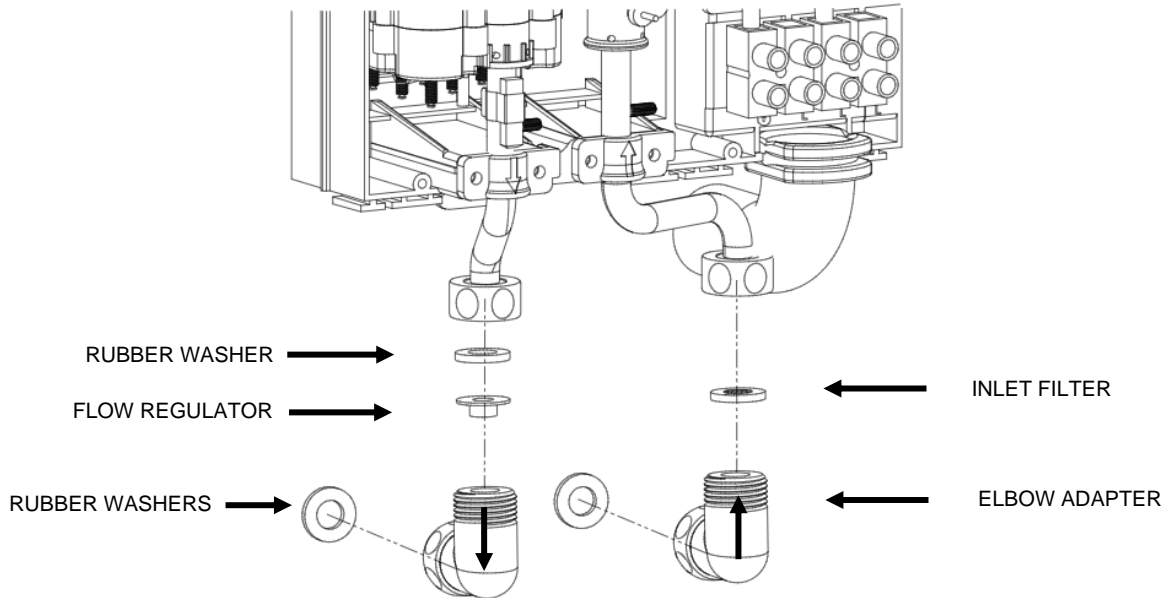
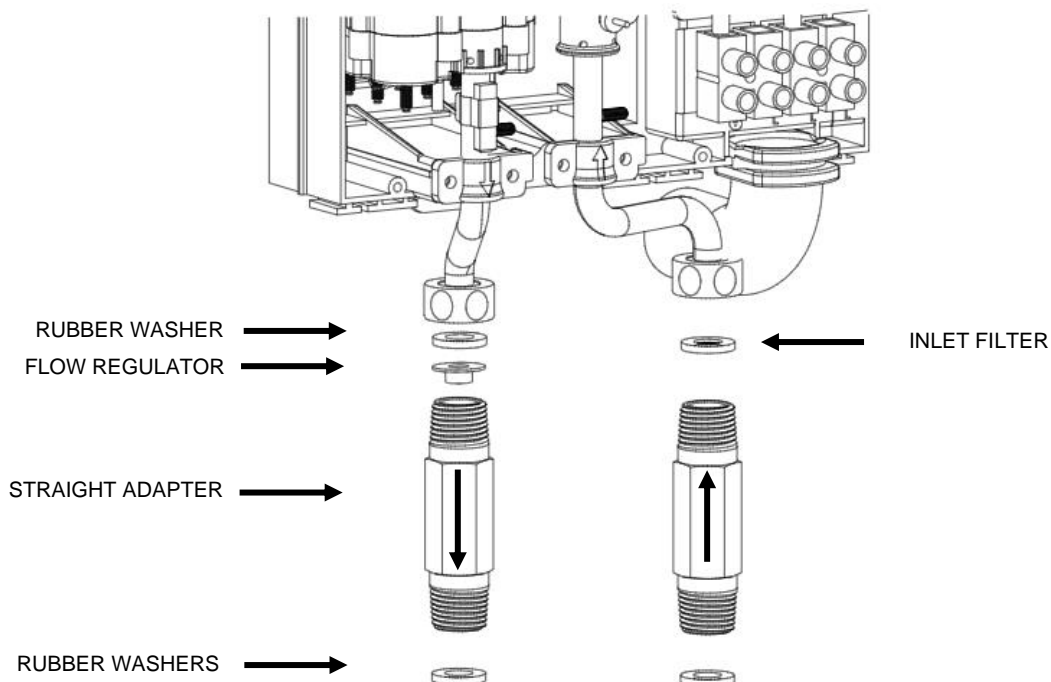

Figure 4: Concealed Entry (viewed from the front)
Figure 7: Bottom Entry (viewed from the front)
- d) Determine if connection of the plumbing and electricals will be concealed through the back of the unit or through the bottom of the unit. Refer to Figure 4 on page 22 and Figure 7 on page 23. If plumbing connections have been roughed in, determine the position of the heater on the wall to allow fitment in accordance with the desired plumbing connection method.